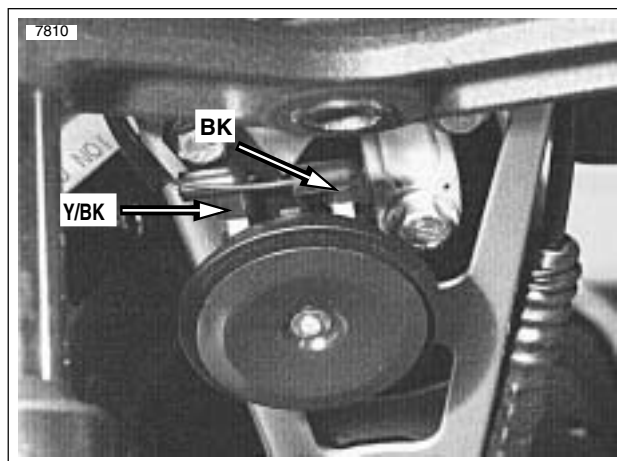

Figure 7-75. Horn Assembly
2. See Figure 7-75. Detach Y/BK power wire and BK ground wire from terminal clips.
1. See Figure 7-75. Connect Y/BK power wire and BK ground wire to terminal clips.
- a. See Figure 7-75. Remove Y/BK power and BK ground wires from terminal clips.